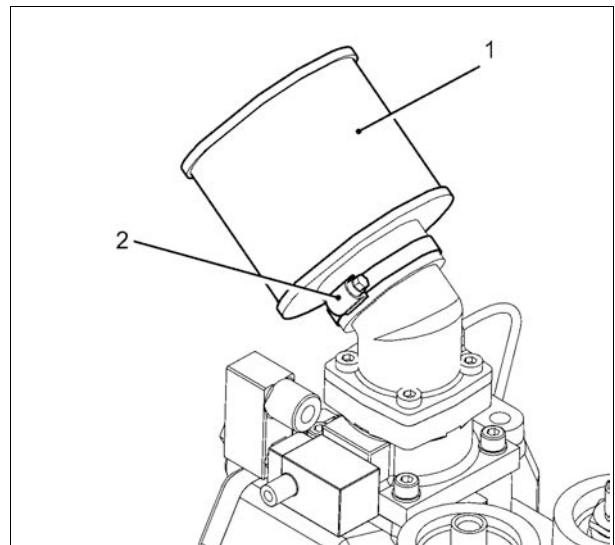

Fig. 20 L07-L11
- Loosen the fixing clamp (- 2 - Fig. 20)
- Pull off the air filter (- 1 - Fig. 20) and replace it with a new one
- Put the air filter on and tighten the fixing clamp (- 2 - Fig. 20)